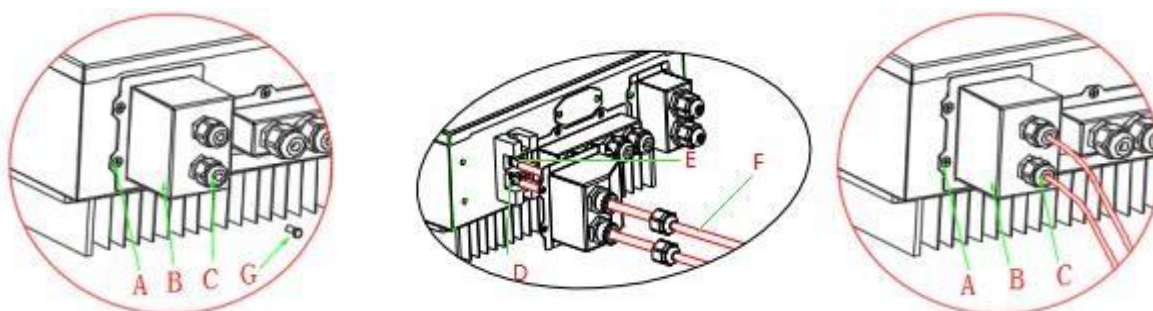

Fig. 6 Battery connection (Test battery wires polarity before connection)
Step 1: Loosen 4 screws (A) using a screwdriver (fig. 6);
Step 2: Remove the waterproof cover (B), loosen the cable gland (C), and then remove the stopper (G);
Step 3: Route the battery wires (F) through the cable gland, then connect battery wires using OT terminal (E);